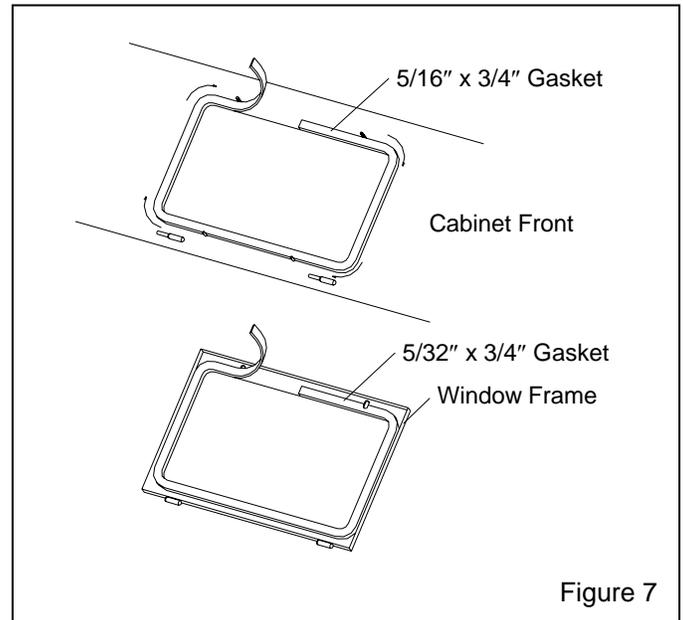

Figure 7
7.4 Window Gasket Replacement, Figure 7
7.4.4 Peel a short section of adhesive backing from the 5/16" thick strip gasket, and adhere the gasket to the center of the top edge of the window opening as shown in Figure 7. Peel additional backing as needed, and work the strip around the radius of each corner, pressing it tightly to bond. Trim the gasket to fit and compress the ends to seal.